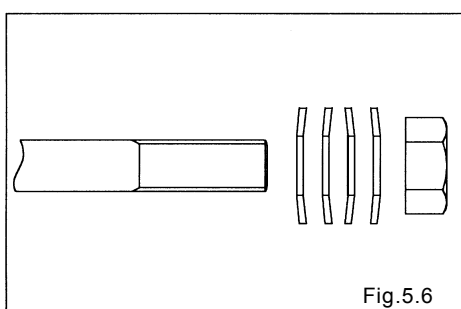

Fig.5.6
- Take care about the installation direction of the conical spring. [Fig. 5.6]